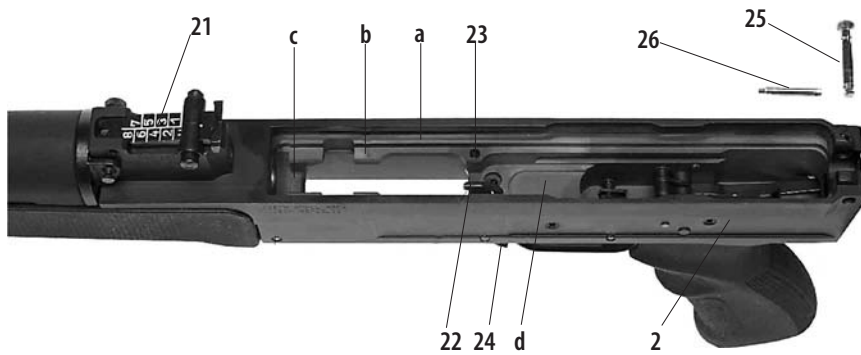

Fig. 8 The receiver assembly /top view/
**The receiver** (Fig. 8) is one of the main parts of the rifle; it joins the other rifle parts together as a whole and guides the bolt. It consists of the receiver proper 2, rear sight assembly 21, ejector 22, bolt catch 23, magazine catch 24, receiver cover pin 25 and receiver cover pin safety pin 26.
**Ejector 22** (Fig. 8) is placed in the grooves in the upper part of the bridge. The ejector is locked against shifting out by means of the dimple. The face surface of the ejector is chamfered so as to ensure that the contact of the ejector with the base of the cartridge case is almost one-point and on the left of the vertical axis of the firing pin when the cartridge is ejected. This guarantees that the direction of the ejection of the cartridge case ejected from the rifle is correct, i.e. upwards and to the right.
In the bottom of the receiver are two rectangular openings. The trigger passes in to the first one while the other is designed for seating the shaped nut of the grip screw. **Trigger guard 28** is riveted to the bottom of the receiver. The rear wall of the receiver is provided with a thread for fixing the stock to the receiver's rear face and additionally with a groove for fixing the return mechanism. The position of the stepped return mechanism is locked by receiver cover pin 25 (Fig. 8) which is kept in position by the force of receiver cover safety pin 26 which presses against the two circumferential grooves of the receiver cover pin. Receiver cover safety pin 26 is mounted vertically in the wall of the receiver rear right-hand corner and is pushed by the rear arm of the trigger mechanism feather.
**Return mechanism base 38** unites all the parts of the return mechanism in order to form one unit. The base is riveted with receiver cover 381. The base is formed by a plate to which return spring guide 385 and striker spring guide 383 are fixed. In the rear wall of the base is a projection by means of which the return mechanism base is positioned in the recess in the rear part of the receiver. In order to prevent the receiver from falling out, the base is locked by receiver cover pin 26 (Fig.8).